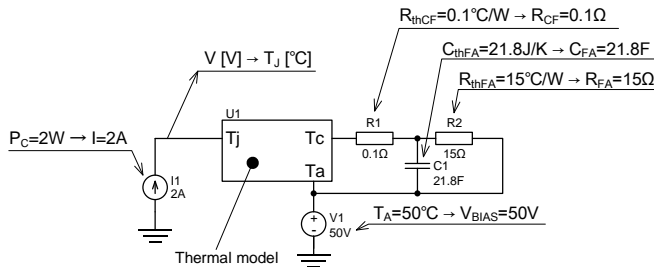

Figure 3. Example of simulation circuit
Next, the simulation circuit and the device configuration are shown in Figures 3 and 4, respectively. From Equations (1) and (2), a voltage with an RC time constant is generated in the Tj pin by applying the power consumption P_D of the device to the Tj pin as a current I and applying the ambient temperature T_A to the Ta pin as a bias voltage V_{BIAS} . This generated voltage represents the junction temperature. In addition, the resistance connected to the Tc pin is R1 that is thermal resistance between the case and the heat sink (R_{thCF}) and R2 that is thermal resistance between the heat sink and the ambient temperature (R_{thFA}). R_{thCF} includes the thermal resistance of the thermal interface material (TIM) and the contact thermal resistance. C1 is the heat capacity of the heat sink. R2 and C1 comprise the heat sink. R3 and C3 comprise the heat sink.